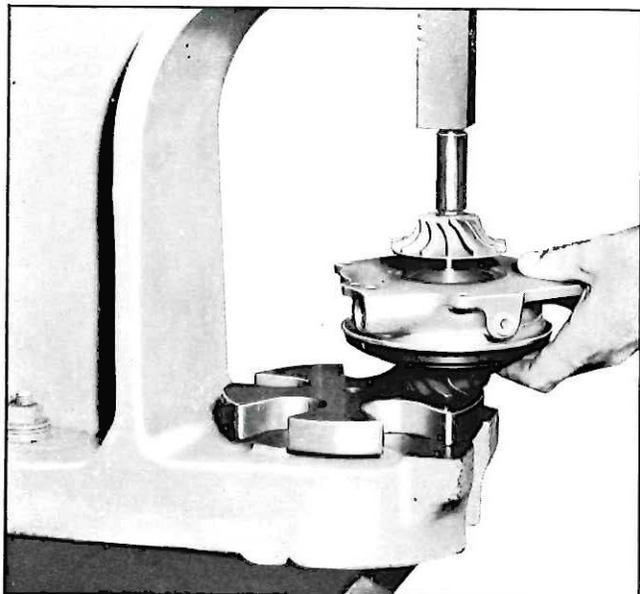

Fig. 35—Impeller Installation
15. Press the impeller onto the shaft, using a hollow spacer such as Tool J-6880 until it bottoms in place (fig. 35).